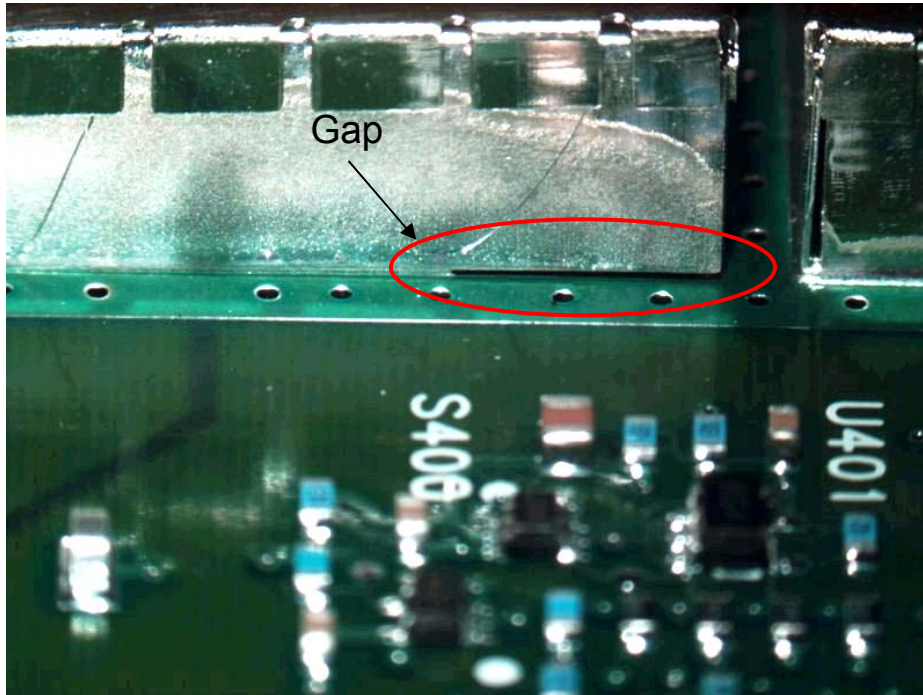

Figure 4. Ensure no excess solder wicked across the top of the shield walls. Uneven surface will prevent lid fingers to reside flat on the shields.
- b. Check that excess solder has not wicked up the side of the shield walls. Refer to Figure 4. The uneven surface created does not allow the shield covers to make good contact.